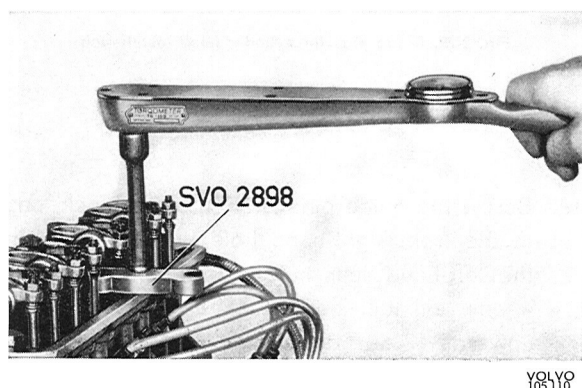

Fig. 2-30. Re-tightening cylinder head bolts
11. Adjust the valve clearance for B 20 A .45—.50 mm (.018—.020") and for B 20 B .55—.60 mm (.022—.024"). (Not final clearance.) Run the engine for 10 minutes. Re-tighten the cylinder head bolts to 90 Nm (65 lb ft) with tool 2889. Fig. 2-30. **Re-adjust** valve clearance according to "Specifications".